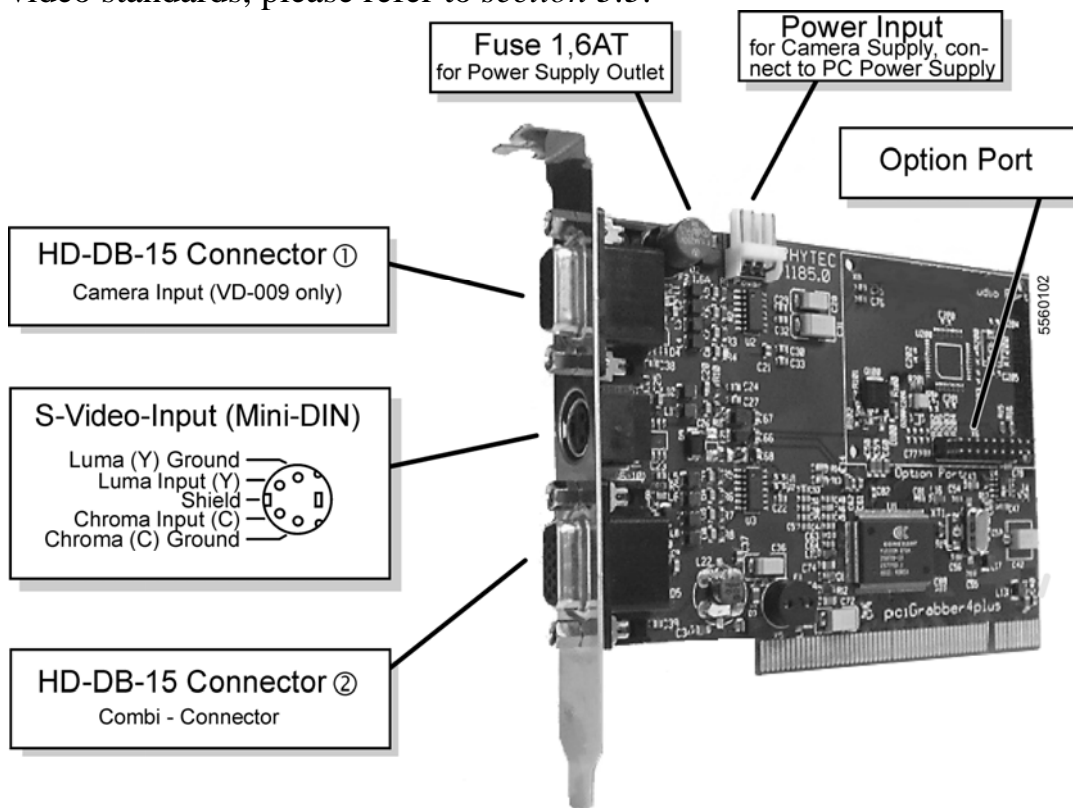

Figure 2: Connectors of the pciGrabber-4plus
The composite video signal is connected to the framegrabber via a multiplexer. This connection yields nine inputs, providing access to two HD-DB-15 sockets (①,②) (refer to *Figure 2*). Table 1 depicts the pin assignment.
- Direct an S-Video signal to the 4-pin Mini DIN socket (X3). The socket is wired corresponding to the S-Video standard (*refer to Figure 2*). The connection of the camera is made by a standard S-Video cable.
- Using a special cable (i.e. WK075), it is possible to connect an S-Video camera to the HD-DB-15 socket ②. Connecting the S-Video camera in this manner allows additional power supplies of +12 V, or additional signals, to be directed by the same connection cable. If such a cable is being used, then the following pins are to be connected (connection of the power supply is optional):